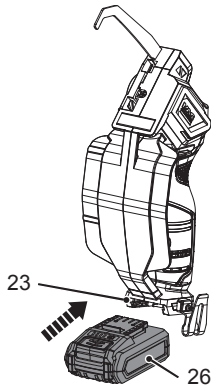

Fig. 9
1. Align the battery pack (26) with the sliding slots of the battery docking port (23) and slide the battery pack (26) in to attach it. Ensure it clicks in place (Fig. 9).